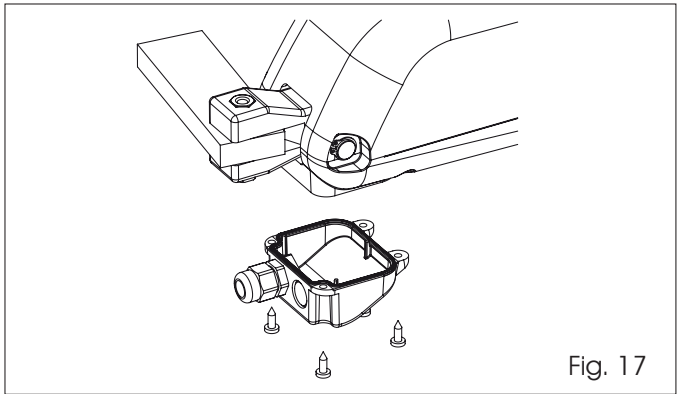

Fig. 17
- Close and secure the cover with the four supplied screws (Fig. 17).